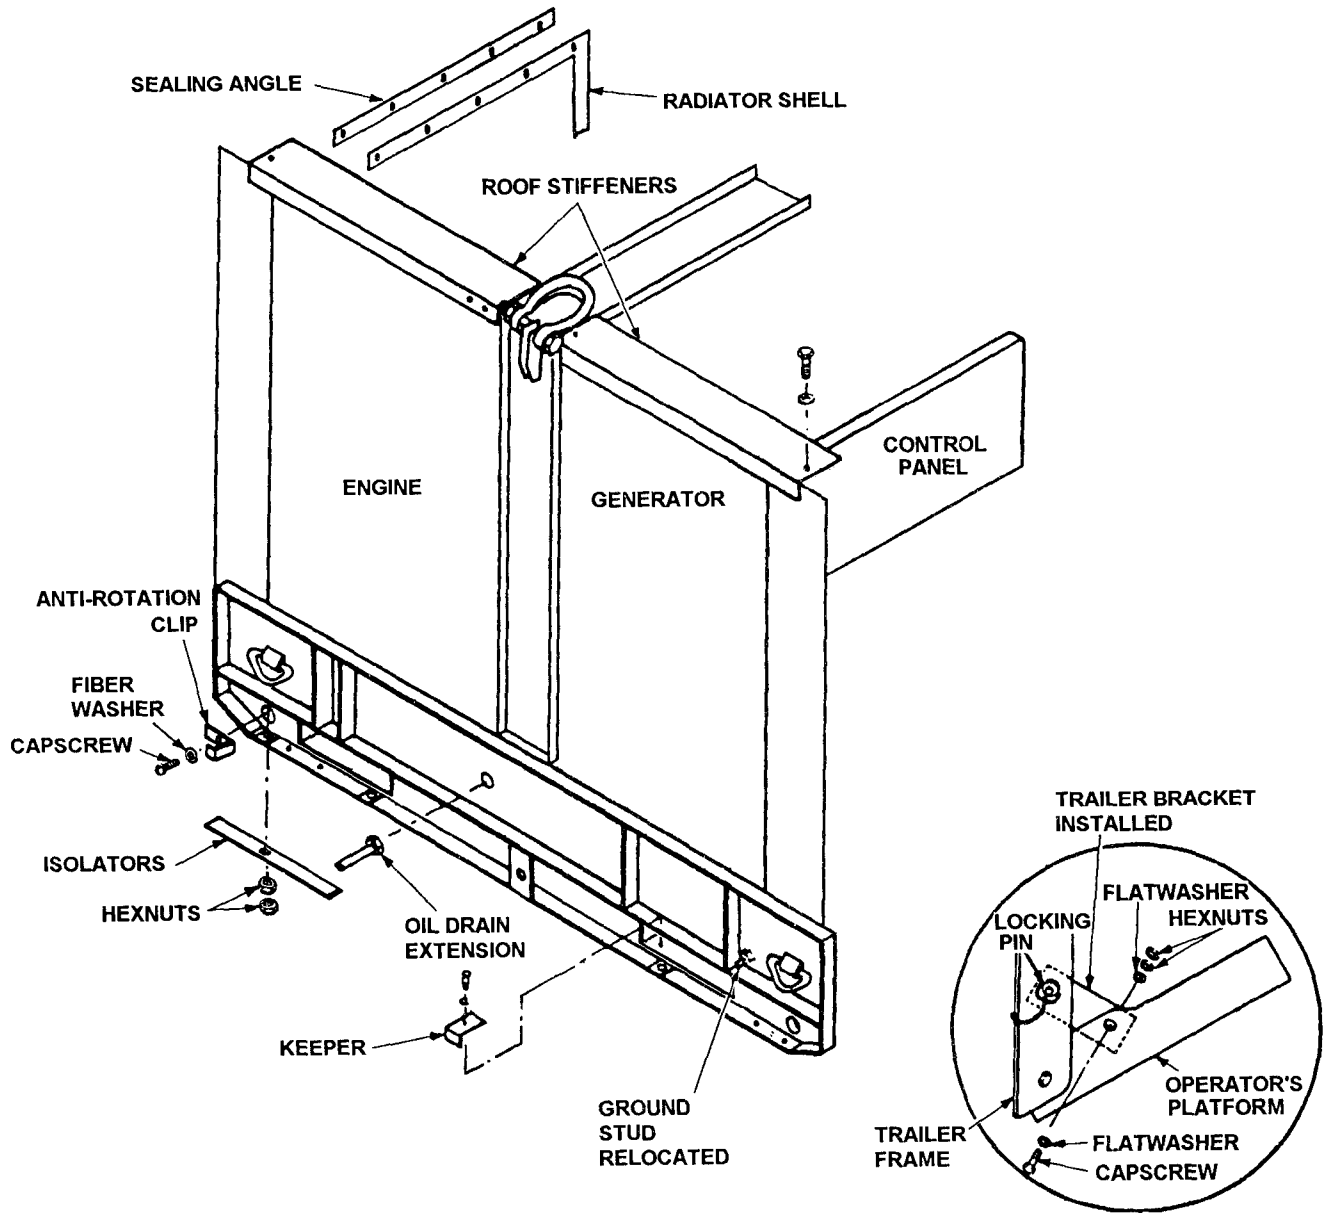
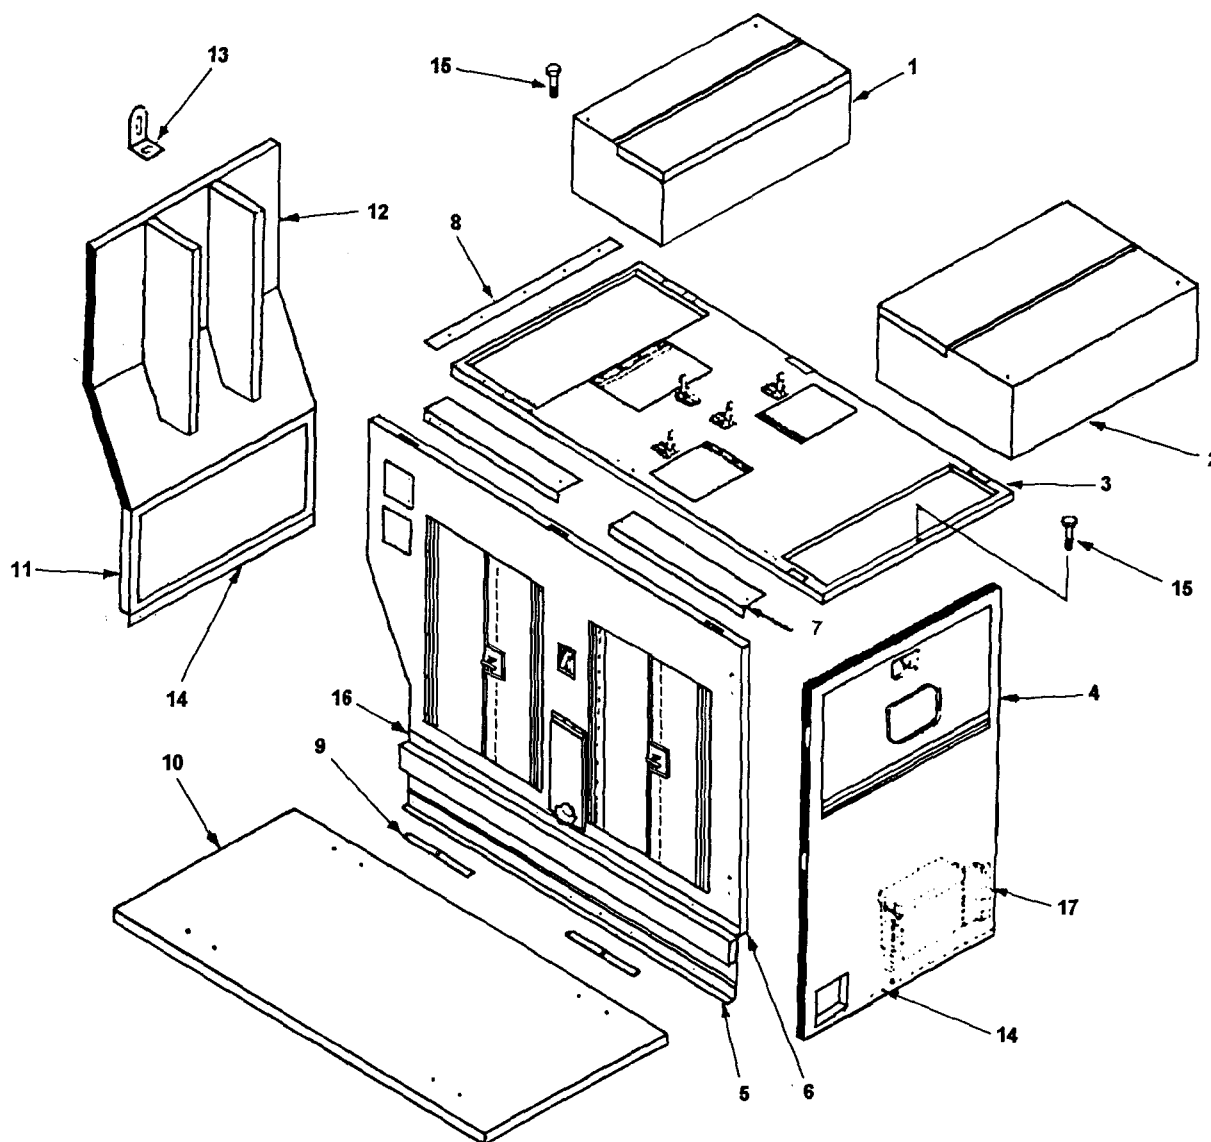

Figure 5-18. Roof Stiffeners, Sealing Angle, Oil Drain, Isolators, Bottom Panel Tray Assembly, and Trailer Brackets
Figure 5-19. Acoustic Suppression Kit Major Components
- (1) Using a suitable lifting device, raise generator set and place 6"x6" blocks under skids. Lower generator set onto blocks.
- (2) Grease inside of generator set skids with grease (GAA).
- (3) Using a suitable lifting device, raise generator set, remove 6"x6" blocks, and place 2"x4" blocks under skids of generator set. Lower generator set onto 2"x4" blocks. Ensure blocks are under skids only. Do not remove tension from lifting device.
- (4) Slide bottom tray under generator set. Ensure weld nuts are positioned in down position. Weld nuts should be centered on fork lift tunnel holes.
- (5) Raise bottom tray assembly, and install keepers, washers, and capscrews to secure on side of bottom tray assembly. (Refer to Figure 5-18.)
- (6) Raise generator set, and remove 2"x4" blocks. Place a 1"x4" block under bottom tray assembly on other side and slowly lower generator set to push bottom tray assembly into position. Rubber must not bend or be allowed to tear loose when generator set is lowered.
- (7) Install keepers, washers, and capscrews to secure the bottom tray assembly. (Refer to Figure 5-18.)
- (8) Raise generator set, and remove 1"x4" block Lower generator set and remove lifting device.
- (9) Raise side panel skirt 90° and remove screws, capscrews, washers, keepers, and remove upper side panel skirt. (Refer to Figure 5-19). Attach lifting sling, and carefully raise and position side panel assembly on mounting member.
- (10) Install three rubber washers, three flat- washers, and three locking nuts in bottom side panel. Ensure rubber flaps are flat against radiator and are pointed forward. Remove plastic plug and feed oil drain hose through side panel hole.
- (11) Remove lifting sling from side panel.
- (12) Repeat steps (9) thru (11) to install other side panel.
- (13) Position front lower panel assembly on generator set. Ensure top rubber flat is in raised position on radiator shell lip. Remove plastic plugs from rotolocks holes. Align male and female rotolocks and, using hex tool, turn rotolock to secure the front lower panel assembly. (Refer to Figure 5-19.) Install plastic plugs. Ensure mounting zee is below bottom tray assembly.
- (14) Attach lifting strap to front top panel, and raise front top panel assembly on side panels. Ensure alignment pins fit in holes for proper alignment. Remove plastic plugs from rotolockholes. Align male and female rotolocks and using hex tool, turn rotolock to secure the front top panel assembly. Remove lifting strap. (Refer to Figure 5-19.) Install plastic plugs.
- (15) Position exhaust extension on engine exhaust. Install and tighten damp to secure the exhaust extension. Exhaust extension opening must be pointed down and must not interfere with other components later.
- (16) Attach lifting strap on rear panel assembly, and position rear panel assembly on generator set. Ensure alignment pins are in holes for proper alignment. Remove plastic plugs from rotolock holes. Align male and female rotolocks and, using hex tool, turn rotolocks to secure the rear panel assembly. Remove lifting strap. (Refer to Figure 5-19.) Install plastic plugs. Ensure mounting zee is below bottom tray assembly.
- (17) Attach lifting sling to roof panel assembly, and position on generator set. Ensure alignment pins are in holes. It maybe necessary to use C-clamps to pull the side panels into position using the lifting clevis as an anchor for the C-clamp. Remove plastic plugs from rotolock holes. Align male and female rotolocks and, using hex tool, turn rotolocks to secure the roof panel assembly. Remove the lifting sling. (Refer to Figure 5-19.) Install plastic plugs. Install two socket head capscrews to secure roof panel assembly.
- (18) Slide sealing angle into position, and tighten capscrews.
- (19) Tighten capscrews securing mounting members.
- (20) Attach lifting sling to inlet turn assembly, and position on roof assembly. Remove the lifting sling. Remove plastic plugs from rotolock holes. Align male and female rotolocks and, using hex tool, turn rotolocks to secure the inlet turn assembly. (Refer to Figure 5-19.) Install plastic plugs.
- (21) Attach lifting sling to discharge turn assembly, and position on roof assembly. Remove the lifting sling. Remove plastic plugs from rotolock holes. Align male and female rotolocks and using hex tool, turn rotolocks to secure the discharge turn assembly. (Refer to figure 5-19.) Install plastic plugs.
- (1) Raise side panel skirts, and install ground wire. Install anti-rotation clips and fiber washer on capscrews, and install capscrews. Lower side panel skirts.
- (2) Glue isolators on skid base or surface of trailer. (Refer to Figure 5-18.)
- (3) Lower generator set onto trailer. Attach ground wire to trailer.
- (4) Install washers and nuts on capscrews to secure generator set.